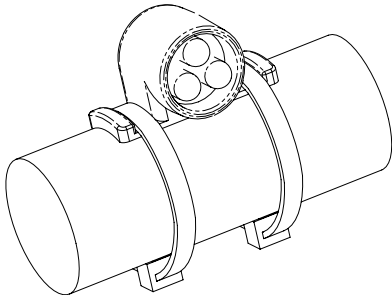

Figure 3
- Fasten with *Cable Ties* as shown in Figure 3.